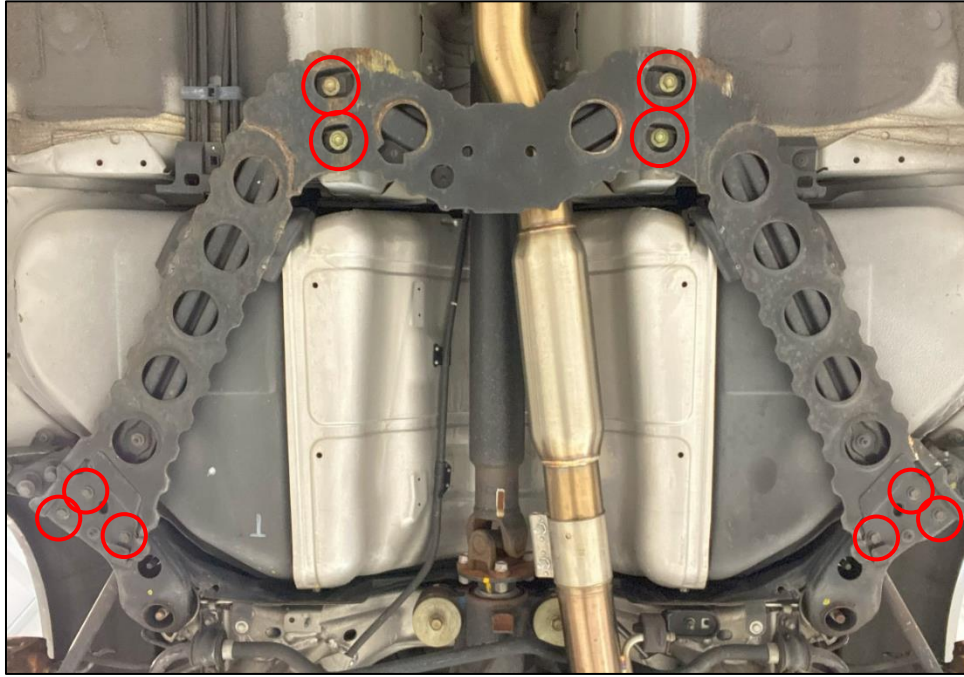

Figure 1
3. Remove the (10) ten bolts connecting the factory W-Brace, see *Figure 1* below.